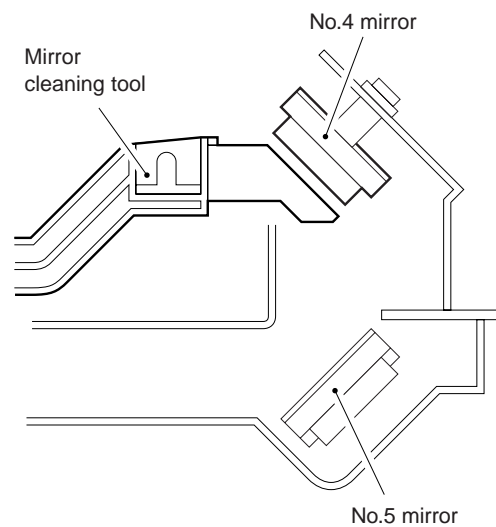

Figure 3-410
- 2) Detach the lens cover, and insert the mirror cleaning tool as shown in Figure 3-410.